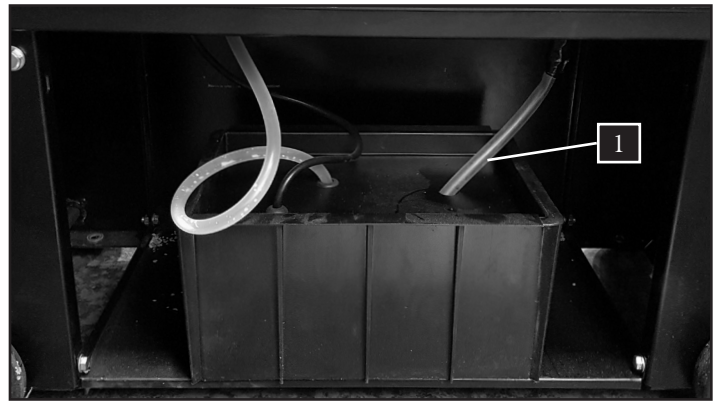

Fig. 6
1. Slide out the coolant tank (Fig. 6) from the back of the saw stand. Remove the coolant return hose (Fig. 6 - 1) and carefully remove the lid from the tank.